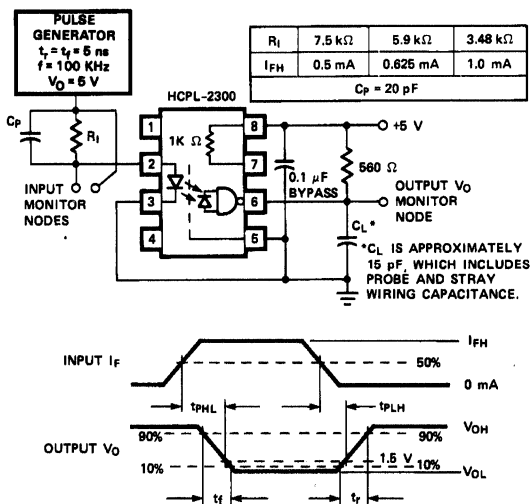

Figure 8. Test Circuit for t_{PHL}, t_{PLH}, t_r, and t_f.
- C_P is the peaking capacitance. Refer to test circuit in Figure 8.